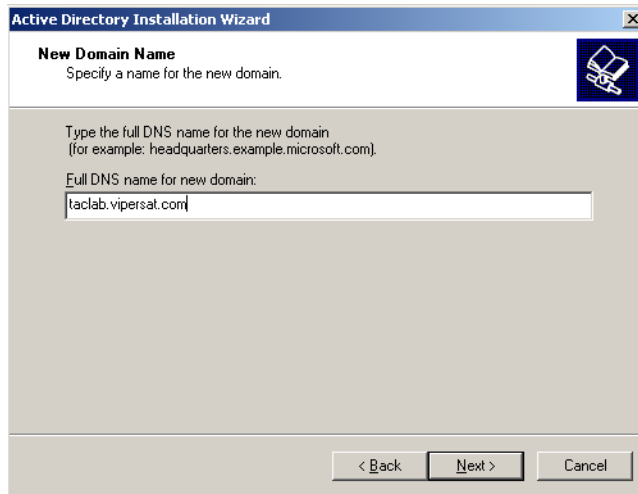

Figure D-10 New domain name dialog
12. In the **New Domain Name** dialog, enter a fully qualified domain name in the **Full DNS name for the new domain** box. A full DNS name has the structure similar to *AnyName.company.com* as shown in the example in figure D-10. After entering the new domain name, click the **Next** button to proceed.